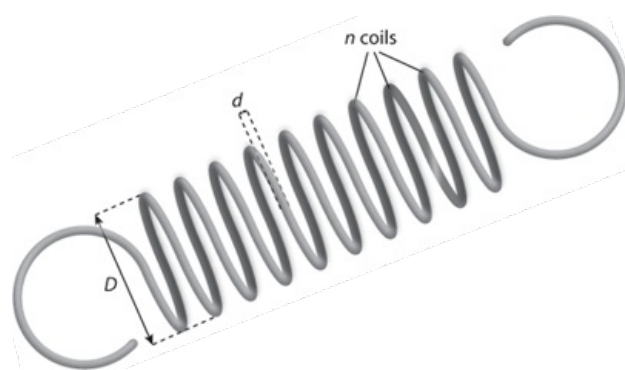

Figure 5.2: Spring.
- 1 Use the digital callipers to measure the dimensions of the spring, as shown in Figure 5.2.